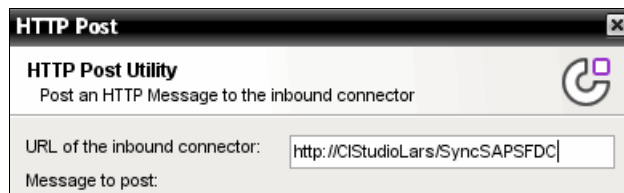

Figure 10-25 Orchestration test using HTTP Post Utility
1. Click **Start Orchestration**. The orchestration is triggered by an HTTP request. So, start the HTTP post utility using **Tools** → **HTTP Post Utility**. Use the following URL to send the request, as shown in Figure 10-25: